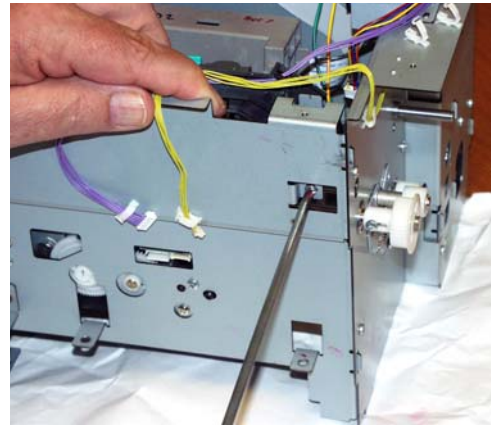

Figure 5-44 Removing Inner Rail Mounting Screw
14. Remove the mounting screw from the outer rail as shown in Figure 5-44, right.